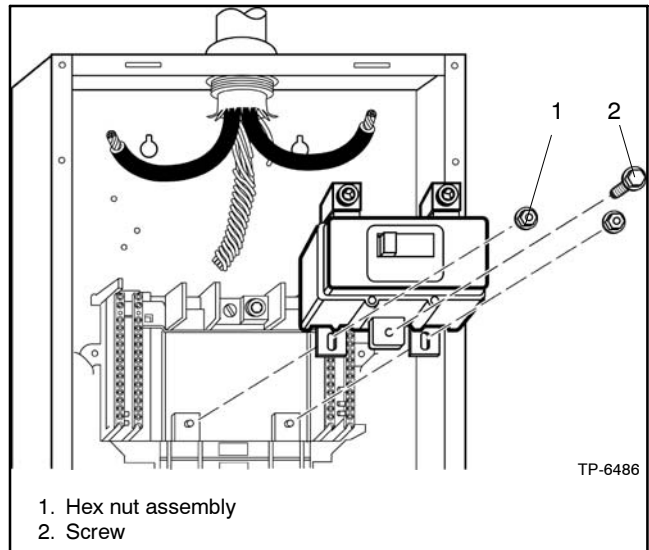

Figure 2-5 Installing Main Circuit Breaker
3. Using a 5/16 in. nut driver, remove the screw holding the existing circuit breaker in place. See Figure 2-5.
1. If the center screw holding the main circuit breaker in place is present (see Figure 2-5 for location), use a 5/16 in. nut driver to completely remove screw.